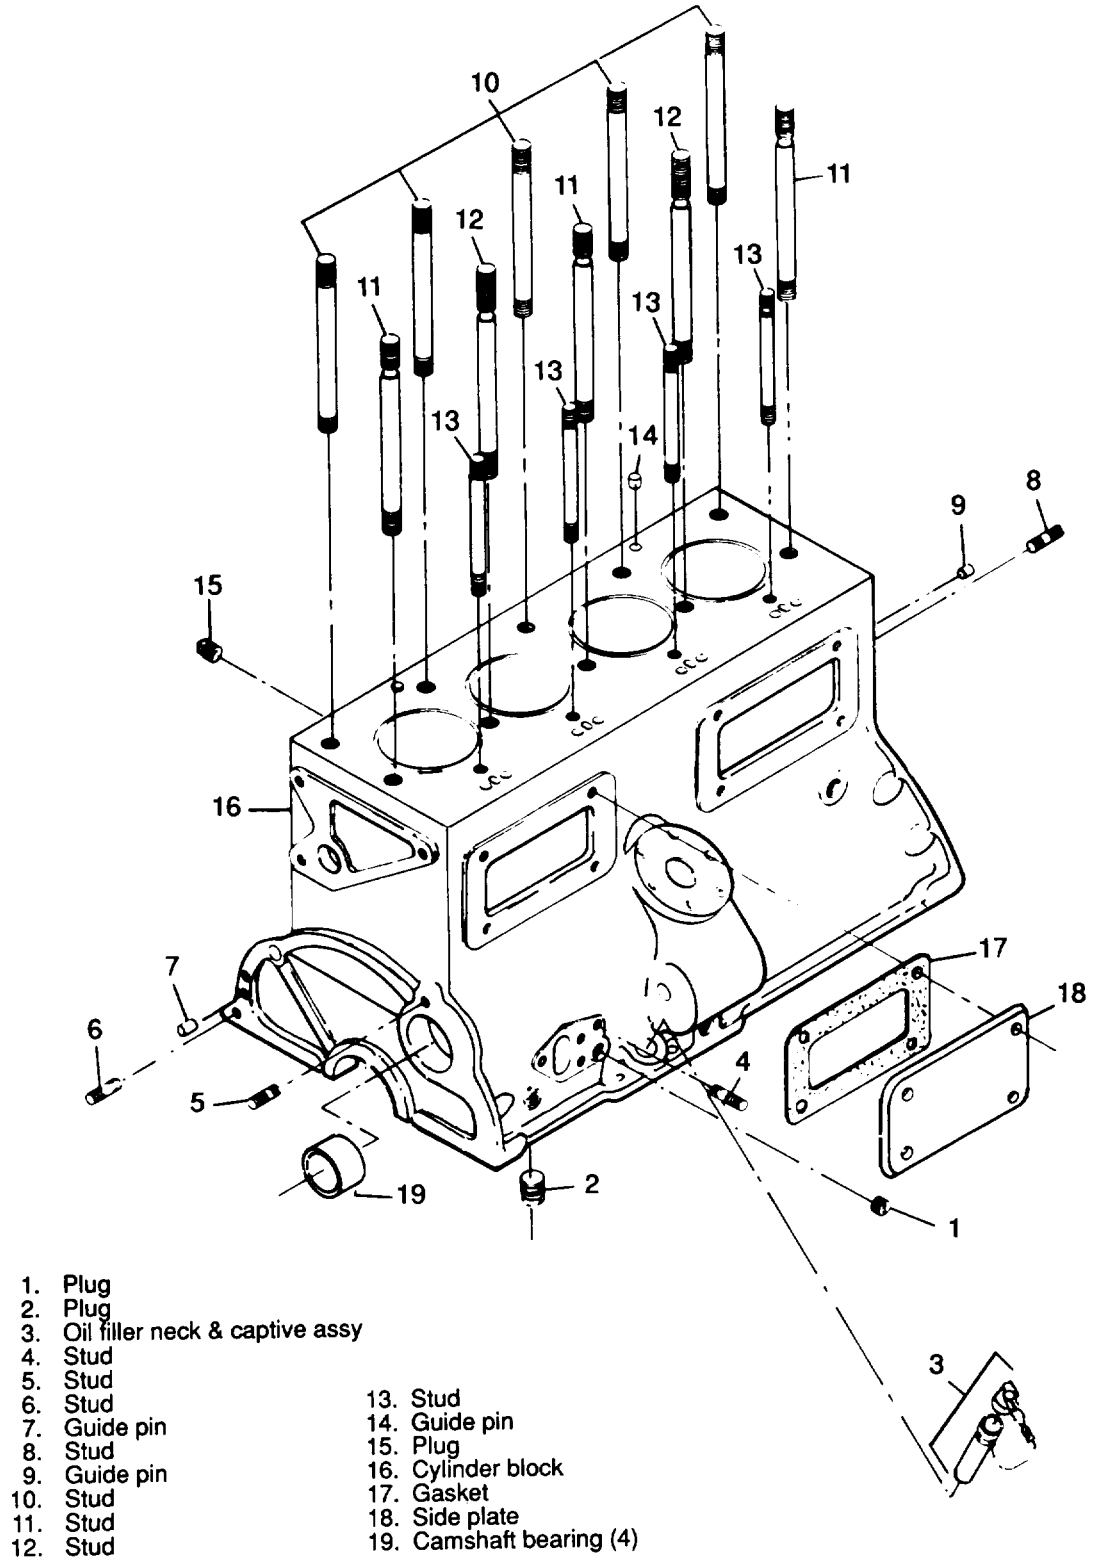

Figure 3-53. Cylinder Block Assembly, Exploded View
- (1) Remove engine assembly (paragraph 2-6).
- (2) Remove timing gears and cover (paragraph 3-51).
- (3) Remove flywheel and flywheel housing (paragraph 3-50).
- (4) Remove cylinder head and rocker arm assembly (paragraph 3-54).
- (5) Remove camshaft and bearings (paragraph 3-55).
- (6) Remove timing gear housing (paragraph 3-51).
- (7) Remove crankshaft, connecting rods, and pistons (paragraph 3-56).
- (8) Remove plugs (1 and 2, figure 3-53).
- (9) Do not remove oil filler neck and captive cap assembly (3) or stud (4) unless inspection reveals damage.
- (10) Do not remove studs (5 and 6) or guide pin (7) unless inspection reveals damage.
- (11) Do not remove studs (8) and guide pin (9) unless inspection reveals damage.
- (12) Do not remove studs (10, 11, 12 and 13) or guide pin (14) unless inspection reveals damage.
(13) Do not remove plug (15) from cylinder block (16) unless replacement is necessary.
- (1) Prior to installation, mask all openings. Treat and paint.
- (2) If removed, position cylinder block (16), and install plug (15).
- (3) If removed, install guide pin (14), and studs (13, 12,11, 10).
- (4) If removed, install guide pin (9) and studs(8).
- (5) If removed, install guide pin (7) and studs (6 and 5).
- (6) If removed, install stud (4) and oil filler neck and cap assembly (3).
- (7) Install plugs (2 and 1, figure 3-53).
- (8) Install crankshaft, connecting rods and pistons (paragraph 3-56).
- (9) Install timing gear housing (paragraph 3-51).
- (10) Install camshaft and bearings (paragraph 3-55).
- (11) Install cylinder head and rocker arm assembly (paragraph 3-54).
- (12) Install flywheel and flywheel housing (paragraph 3-50).
- (13) Install timing gears and cover (paragrahp 3-51).
- (14) Install engine assembly (paragraph 2-6).